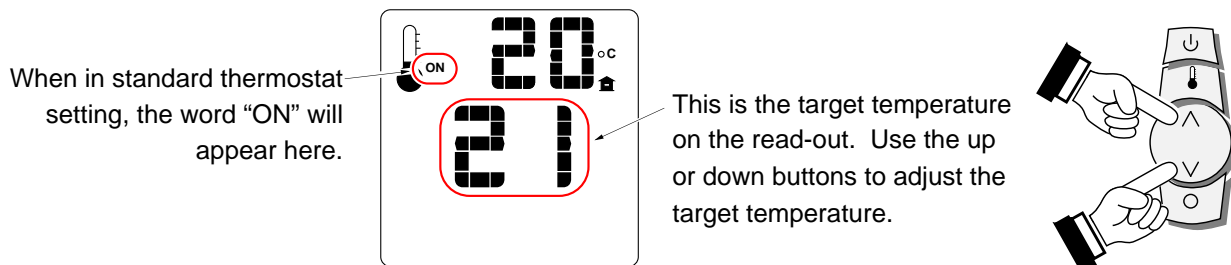

Figure 7
- **STANDARD THERMOSTAT** - While in standard thermostat setting, the transmitter will turn the burner on and off to achieve the target temperature (see Figure 7 below). To adjust the target temperature, press the up and down buttons until a suitable temperature is achieved.